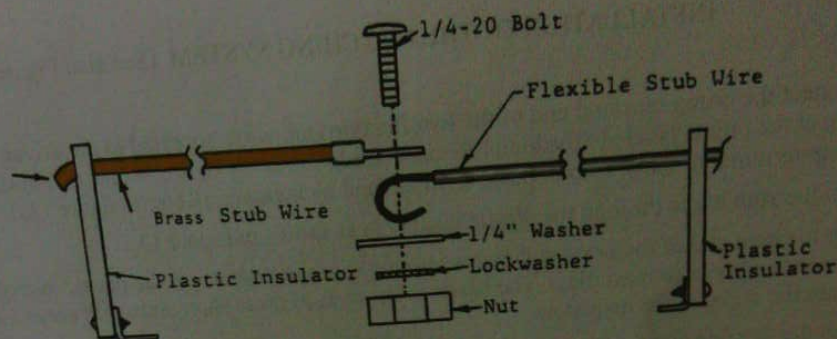

Figure 13b - Joining Brass & Flexible Stub Wires
- Join the flexible and the brass stub wires as shown in Figure 13b. Simply form the bare end of the flexible stub wire into a small loop and slip the loop between the crimp terminal and flat washer as shown.